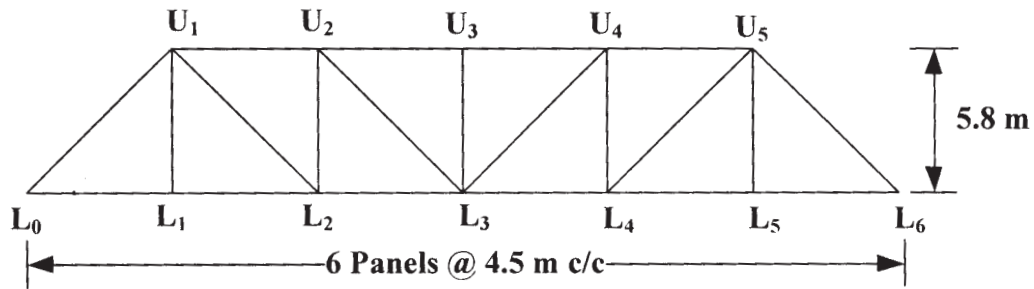

Fig. 7
- Q7)** Design the members $U_1 - U_1$, U_2L_1 and U_1-L_2 for the railway steel truss bridge shown in Fig. 7. Also draw a neat sketch of the connection of members at U_1 .
- Q8)** For the railway bridge shown in Fig. 7, design the top and bottom lateral bracing with the given data.